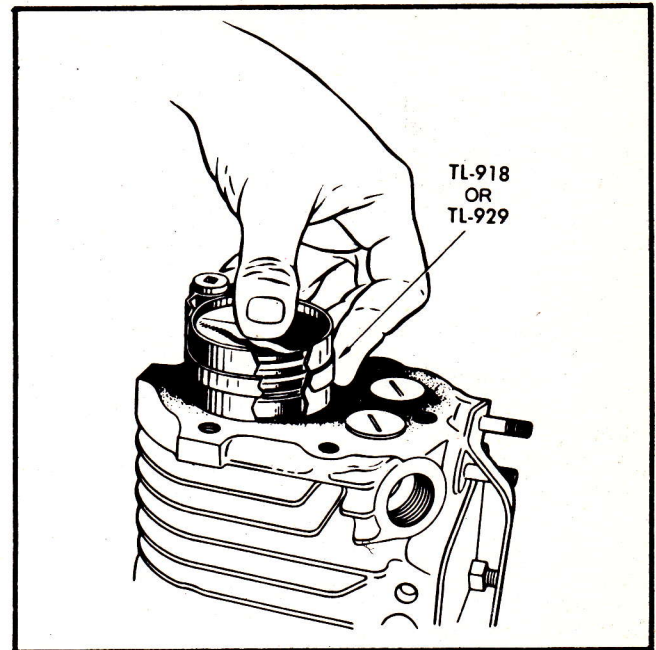

Figure No. 19
4. Use a piston ring compressor (TL-929) to hold the rings in place while installing the piston in the bore (See Figure No. 19.)